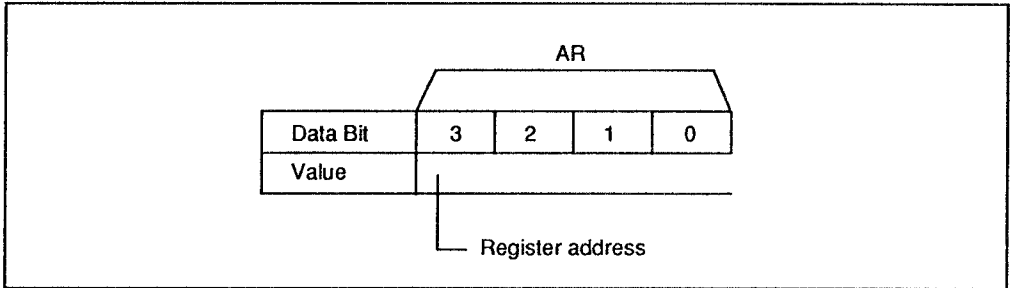

Figure 1-5 Address Register
Address Register (AR): Used to select one of the 16 data registers, as shown in figure 1-5. The address register itself is selected when the RS signal is low. In order to select a certain data register, that register address must be written into the address register using the MPU.